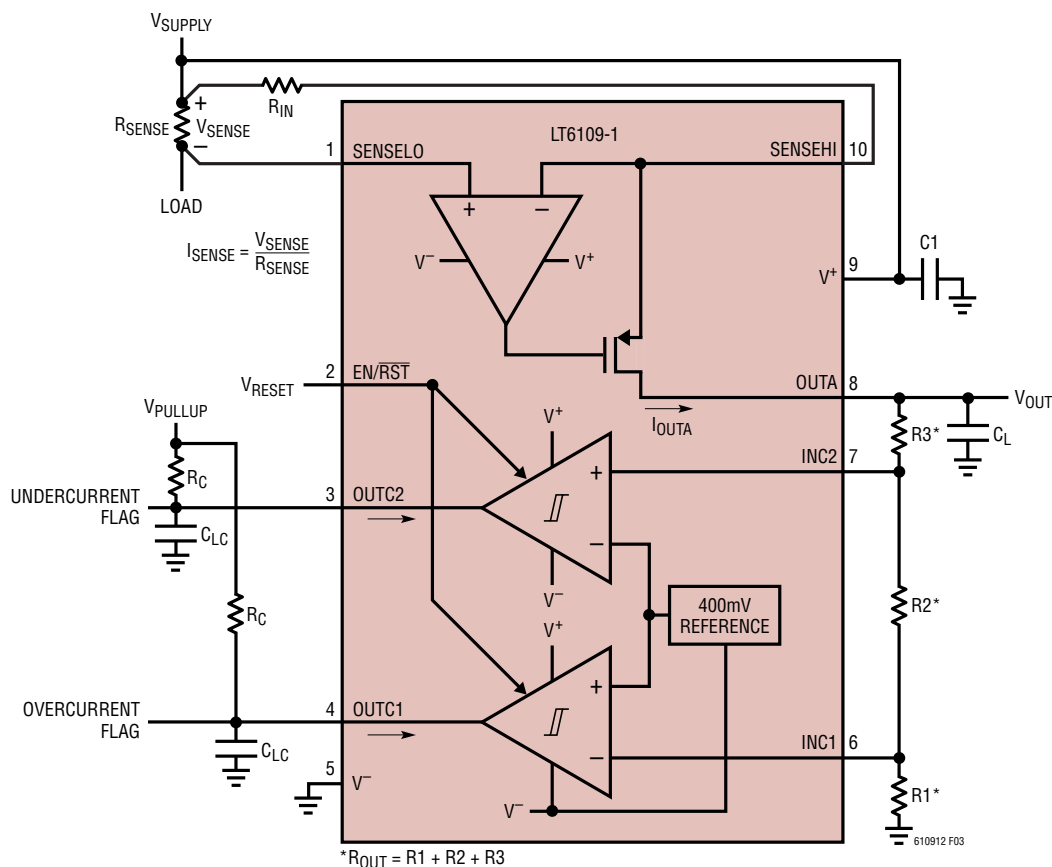

Figure 3. LT6109-1 Typical Connection
**TYPICAL PERFORMANCE CHARACTERISTICS** Performance characteristics taken at  $T_A = 25^\circ\text{C}$ ,  $V^+ = 12\text{V}$ ,  $V_{\text{PULLUP}} = V^+$ ,  $V_{\text{EN/RST}} = 2.7\text{V}$ ,  $R_{\text{IN}} = 100\Omega$ ,  $R_{\text{OUT}} = R_1 + R_2 + R_3 = 10\text{k}$ , gain = 100,  $R_C = 25.5\text{k}$ ,  $C_L = C_{LC} = 2\text{pF}$ , unless otherwise noted. (See Figure 3)
An internal sense amplifier loop forces SENSEHI to have the same potential as SENSELO as shown in Figure 3. Connecting an external resistor,  $R_{IN}$ , between SENSEHI and  $V_{SUPPLY}$  forces a potential,  $V_{SENSE}$ , across  $R_{IN}$ . A corresponding current,  $I_{OUTA}$ , equal to  $V_{SENSE}/R_{IN}$ , will flow through  $R_{IN}$ . The high impedance inputs of the sense amplifier do not load this current, so it will flow through an internal MOSFET to the output pin, OUTA.
where  $R_{OUT} = R_1 + R_2 + R_3$  as shown in Figure 3.
Kelvin connection of the SENSEHI and SENSELO inputs to the sense resistor should be used in all but the lowest power applications. Solder connections and PC board interconnections that carry high currents can cause significant error in measurement due to their relatively large resistances. One 10mm  $\times$  10mm square trace of 1oz copper is approximately 0.5m $\Omega$ . A 1mV error can be caused by as little as 2A flowing through this small interconnect. This will cause a 1% error for a full-scale  $V_{SENSE}$  of 100mV. A 10A load current in the same interconnect will cause a 5% error for the same 100mV signal. By isolating the sense traces from the high current paths, this error can be reduced by orders of magnitude. A sense resistor with integrated Kelvin sense terminals will give the best results. Figure 3 illustrates the recommended method for connecting the SENSEHI and SENSELO pins to the sense resistor.
then use the configuration shown in Figure 3. The desired trip points and full-scale analog output voltage for the circuit in Figure 3 can then be achieved using the following equations: